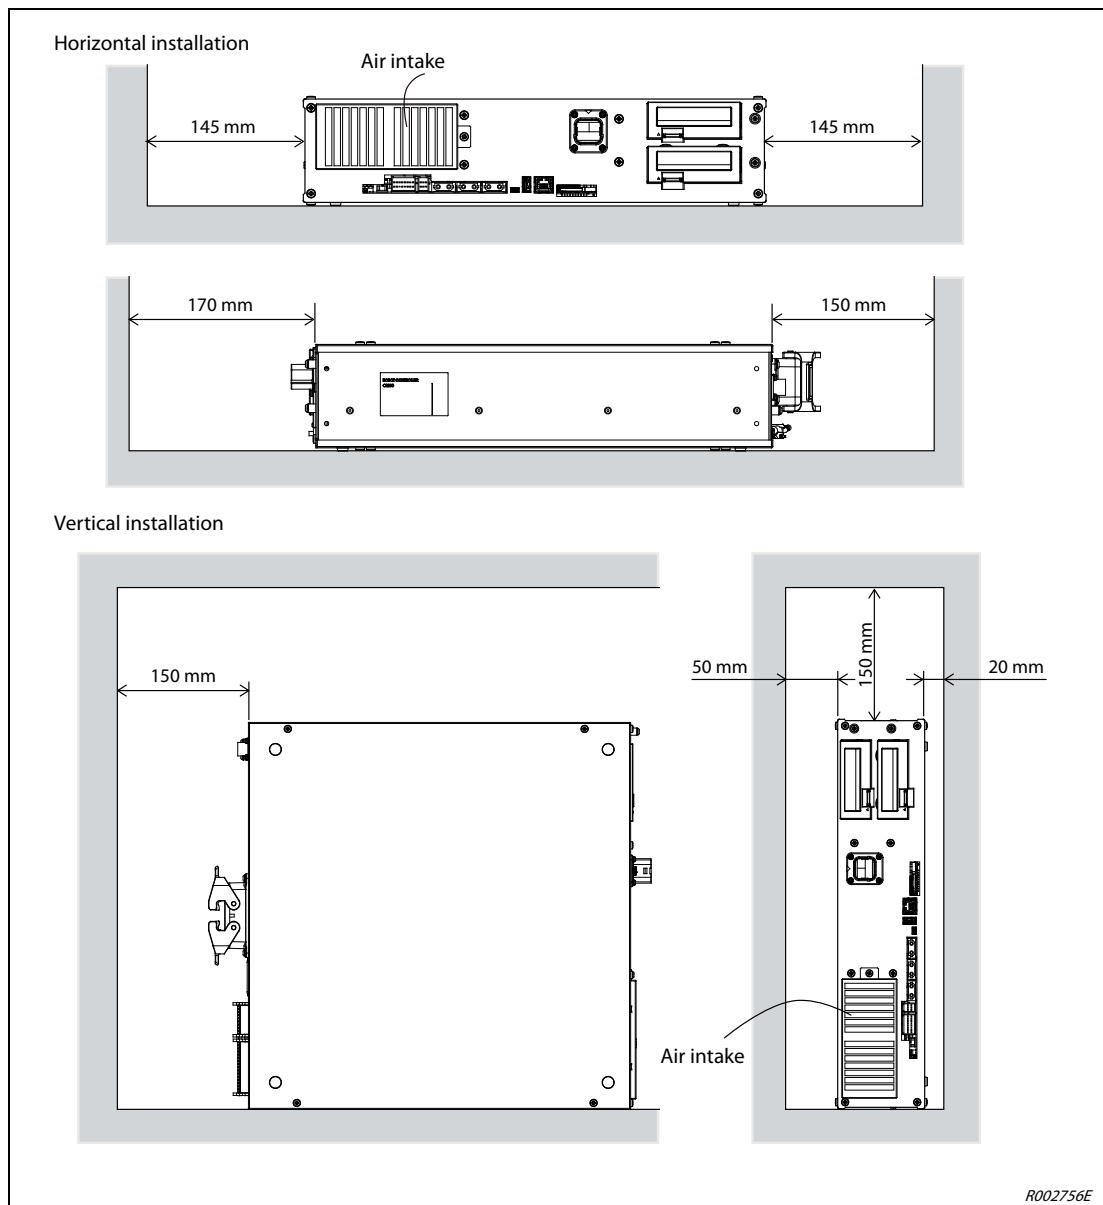

Fig. 3-16: Installation of the CR800 controller
- The lateral clearances must not be less than shown in Fig. 3-16.